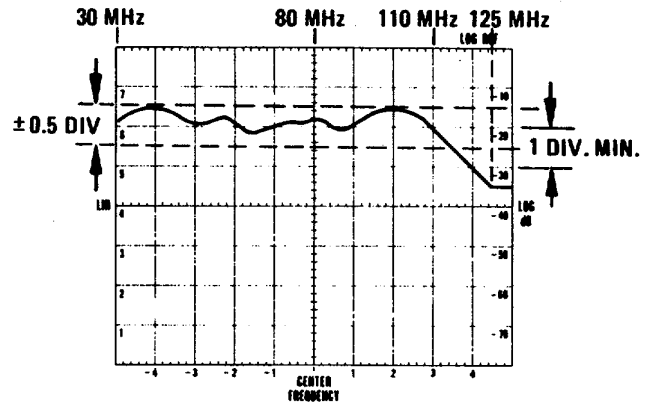

Figure 5-8. 120 MHz Bandpass Shape
4. Change INPUT ATTENUATION to 30 dB. Switch the LOG/LINEAR control to LINEAR. Adjust LINEAR SENSITIVITY so that trace is centered on the 6-LIN line (left side of graticule). Figure 5-8 shows limits for the filter response in divisions.